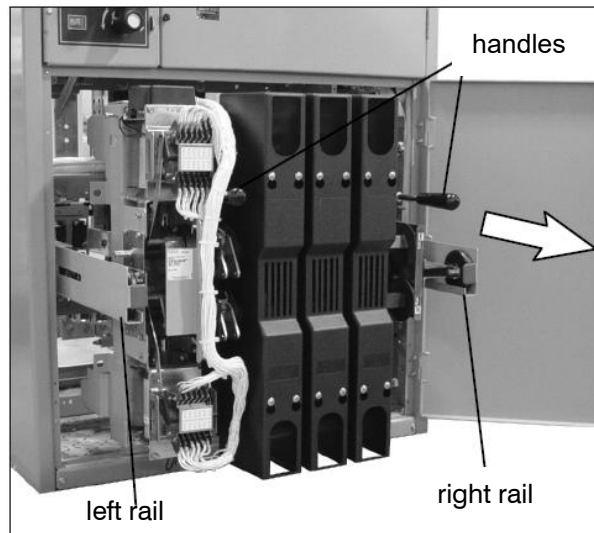

Figure 19. Transfer switch isolated and pulled out for inspection.
4. Open the lower enclosure door. Pull out both left and right side rails then use the two tab handles to roll out the transfer switch. It can be safely inspected in this position. The transfer switch can also be removed for easier maintenance operations. See Figure 19.